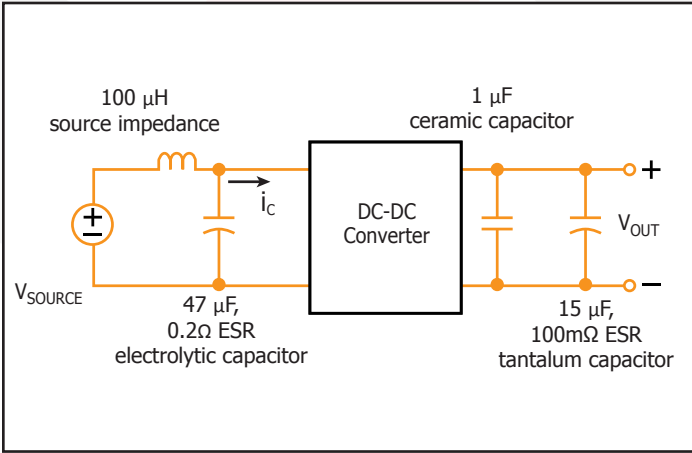

Figure 17: Test set-up diagram showing measurement points for Input Terminal Ripple Current (Figure 9) and Output Voltage Ripple (Figure 10).
**Figure 9:** Input terminal current ripple,  $i_C$ , at full rated output current and nominal input voltage with 100µH source impedance and 47µF electrolytic capacitor (100mA/div). Bandwidth: 20MHz. See Figure 17. Timescale: 1.00µs/div.
**Figure 10:** Output voltage ripple,  $V_{out}$ , at nominal input voltage and rated load current (200 mV/div). Load capacitance: 1µF ceramic capacitor and 15µF tantalum capacitor. Bandwidth: 10 MHz. Timescale: 1.00µs/div. See Figure 17.